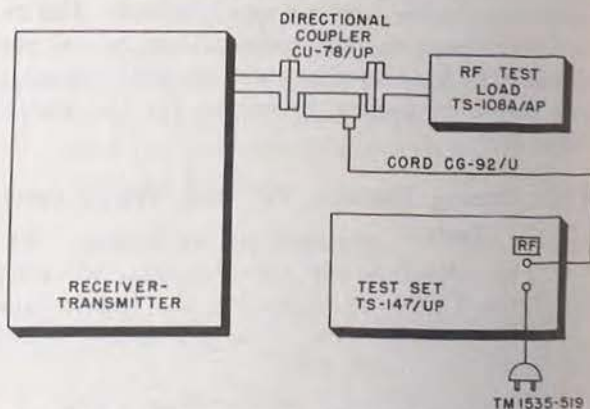

Figure 125. Transmitter power and frequency measurement, test set-up.
### 131. Transmitter Circuits, Power Output (fig. 125)
h. Attach the unconnected end of Cord CG-92/U to the directional coupler, as shown in figure 125.